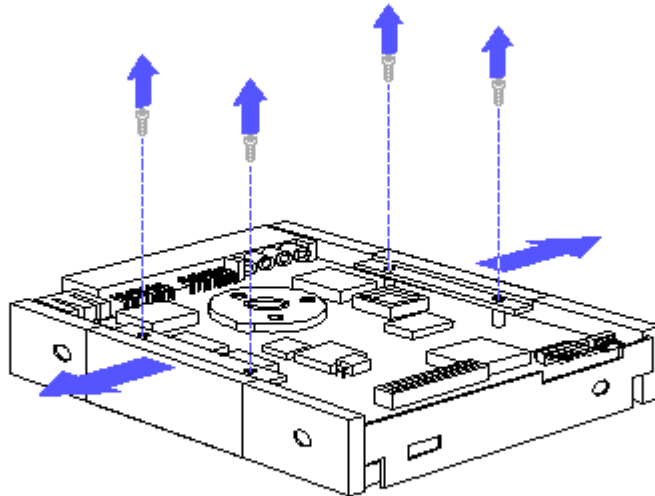

Figure 5-19. Removing the Shock Mounts
4. Lift the fixed disk drive out of the cage and remove the shock mounts (Figure 5-19).